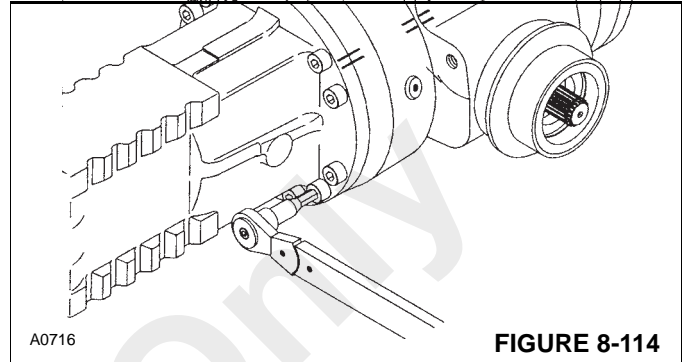

FIGURE 8-114
3. Install a new O-ring into the axle beam housing. Install the axle beam on the brake flange (Figure 8-114). Be careful to align the mounting holes.